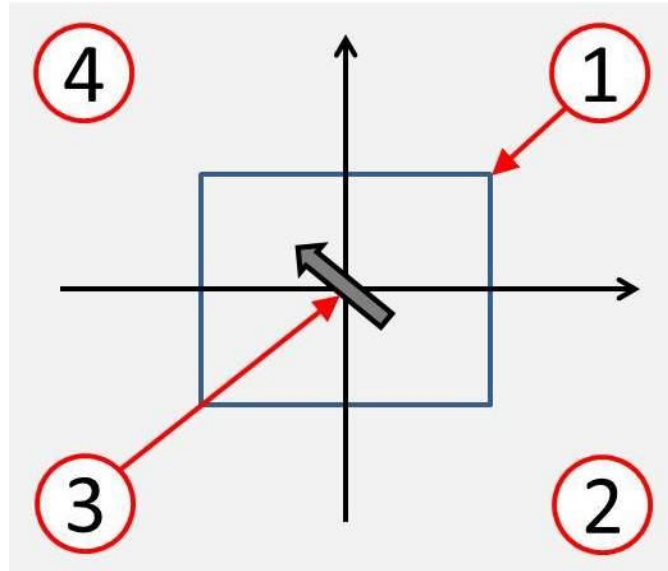

Fig. 1 Cross Caster - Cross Camber
lead/pull right. The combination of both the cross camber and cross caster can be visualized in (Fig. 1). Quadrant (4) represents increased cross caster along the vertical axis and decreased cross camber along the horizontal axis (Fig. 1). Quadrant (2) represents decreased cross caster along the vertical axis and increased cross camber along the horizontal axis (Fig. 1).
It is important to make sure the direction of change in cross camber and/or cross caster addresses and counteracts the customer complaint. An example would be, if a vehicle shows a left lead/pull condition and the alignment data (cross-camber, cross-caster) falls into the second quadrant (2), the repair must move the alignment setting (3) toward the fourth quadrant (4) (Fig. 1). This means that the cross camber values should decrease and/or the cross caster values should increase to counteract the left lead/pull condition. On the other hand, if a vehicle shows a right lead/pull condition and the alignment data (cross-camber, cross-caster) falls into the fourth quadrant (4), the repair must move the alignment setting (3) toward the second quadrant (2) (Fig. 1). This means that the cross camber values should increase and/or the cross caster values should decrease to counteract the right lead/pull condition.
NOTE: Tire characteristics may alter the alignment targets so the center of the acceptable target area range may not represent the best adjustment for a specific vehicle. The goal is to set the alignment so the vehicle does not pull when driving on a normal road crown while maintaining each of the alignment measurement values. The readings may go to the outer edge of the specification target area (1) (Fig. 1).